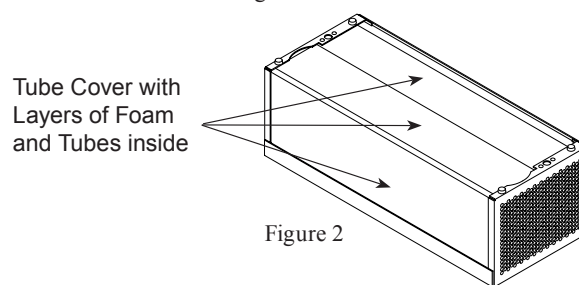

Figure 2
3. Orient the Tube Cover with the top side down so the foam containing the Tubes is accessible. Refer to figure 2.